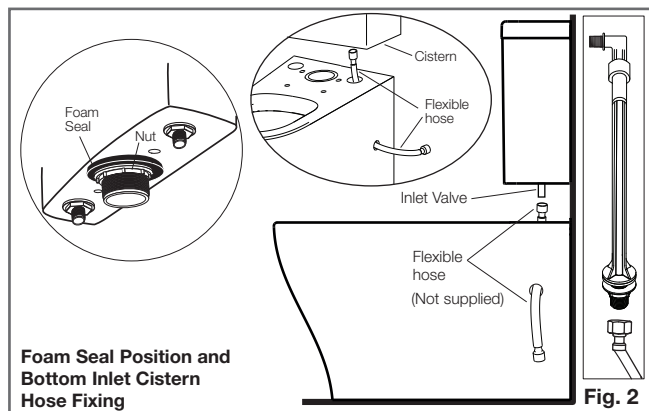
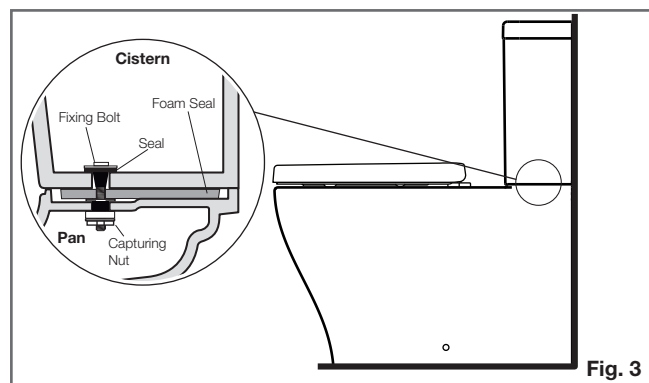

Fig. 2
Fig. 3
- 1- Securely attach Foam Seal around the outlet on the base of cistern, as detailed in **Fig. 2**. Remove outlet valve to gain access to the cistern fixing holes.
- 2- Connect external flexible hose (Not supplied) to Inlet adaptor bottom end and thread other end of flexible hose through side hole on pan, as detailed in **Fig. 2**. Position cistern onto pan and align the cistern fixing holes with pre-fitted capturing nuts located on the cistern platform. Inset & tighten fixing bolts with a screwdriver to secure the cistern to the pan, as detailed in **Fig. 3**.
- 3- Inset & tighten fixing bolts with a screwdriver to secure the cistern to pan, as detailed in **Fig. 3**.